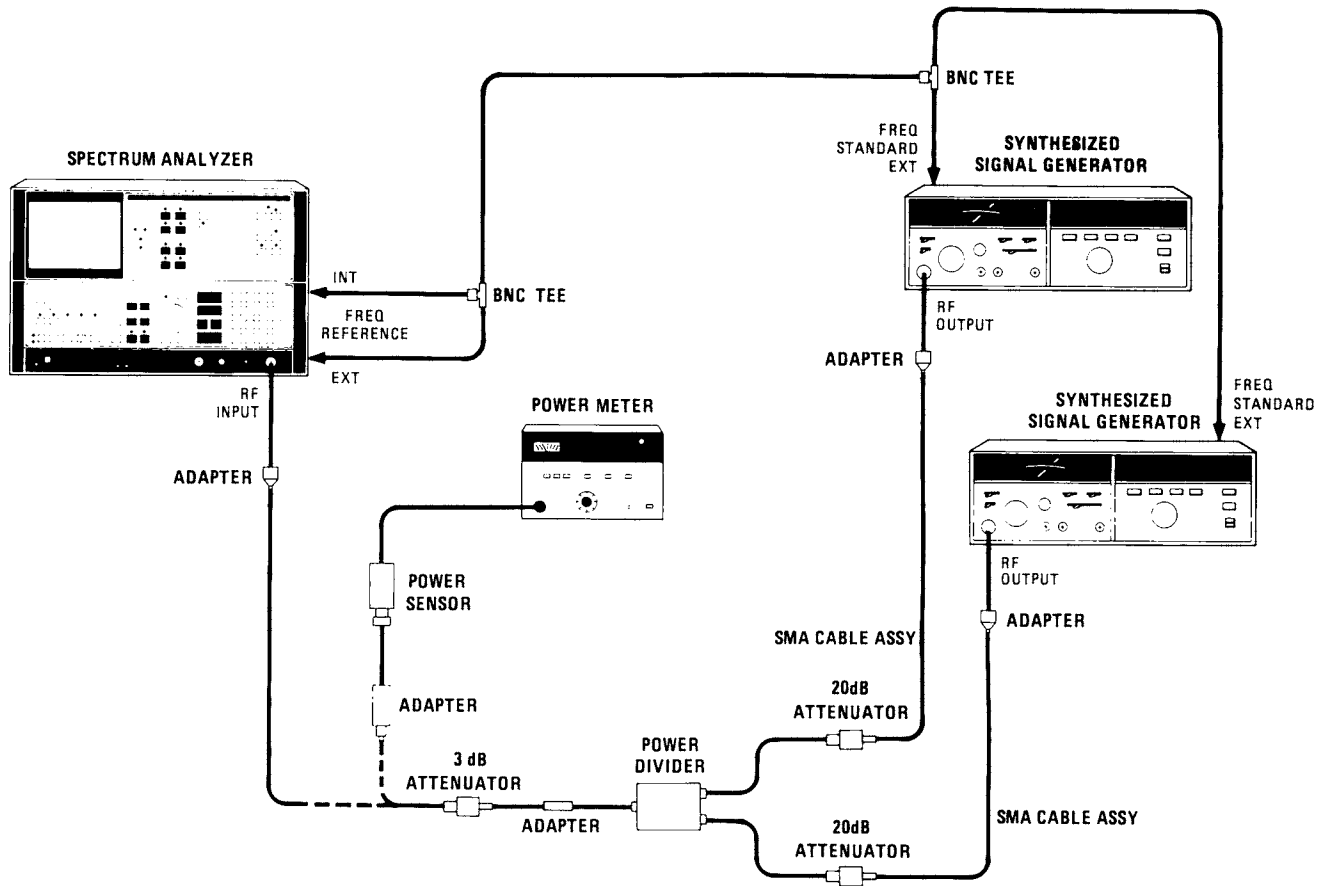

Figure 4-38. Intermodulation Distortion Test Setup
27. Connect equipment as shown in Figure 4-38 with "output" of power divider connected to power sensor. The FREQ REFERENCE switch on the rear panel of the analyzer should be set to INT and the FREQ REFERENCE switch on both synthesizer rear panels should be set to EXT.
31. Connect output of power divider to analyzer RF INPUT as shown in Figure 4-38.
42. Connect the output of the power divider to the power sensor as shown in Figure 4-38.
44. Connect the output of the power divider to the analyzer input as shown in Figure 4-38.